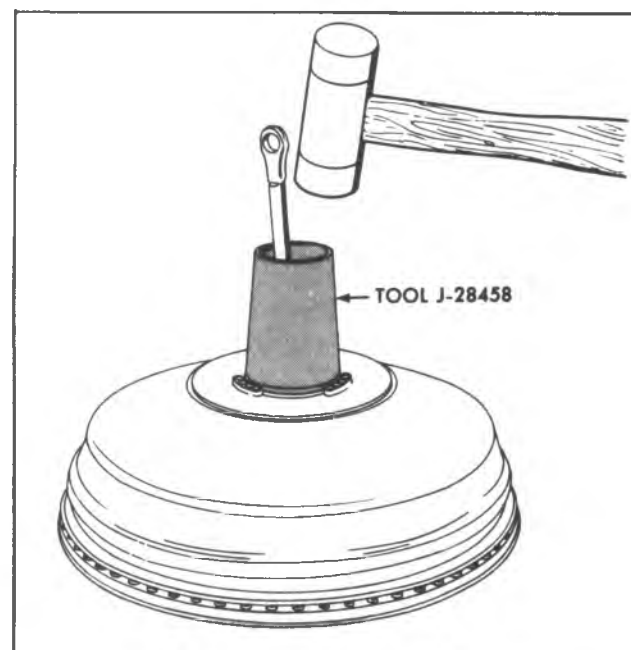

Fig. 5-8A—Installing Diaphragm Retainer
25. Place the diaphragm retainer over power piston and onto diaphragm. Place Tool J-28458 over power piston onto diaphragm retainer. Strike with hammer until retainer is locked on neck of power piston (fig. 5-8A).